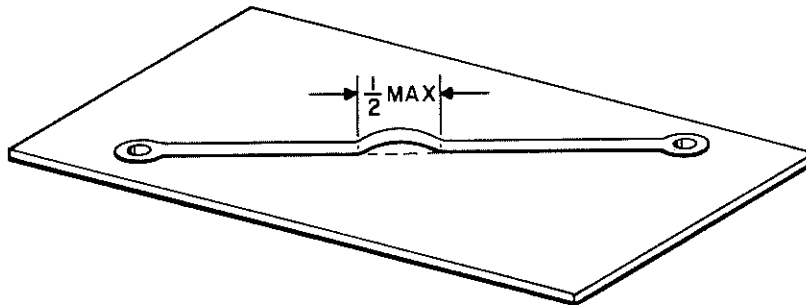

Figure 5-5. Lifted Circuitry Repairable Maximum
- A Unbonded circuitry less than 1/2 inch in length (see figure 5-5) may be made acceptable by rebonding the circuitry to the laminate with currently approved epoxy bonding materials. Bonding material shall be applied all over and beyond the lifted area for a distance of approximately 1/16 inch all around. No one printed wiring path shall exhibit more than two such rebonded areas in its length.